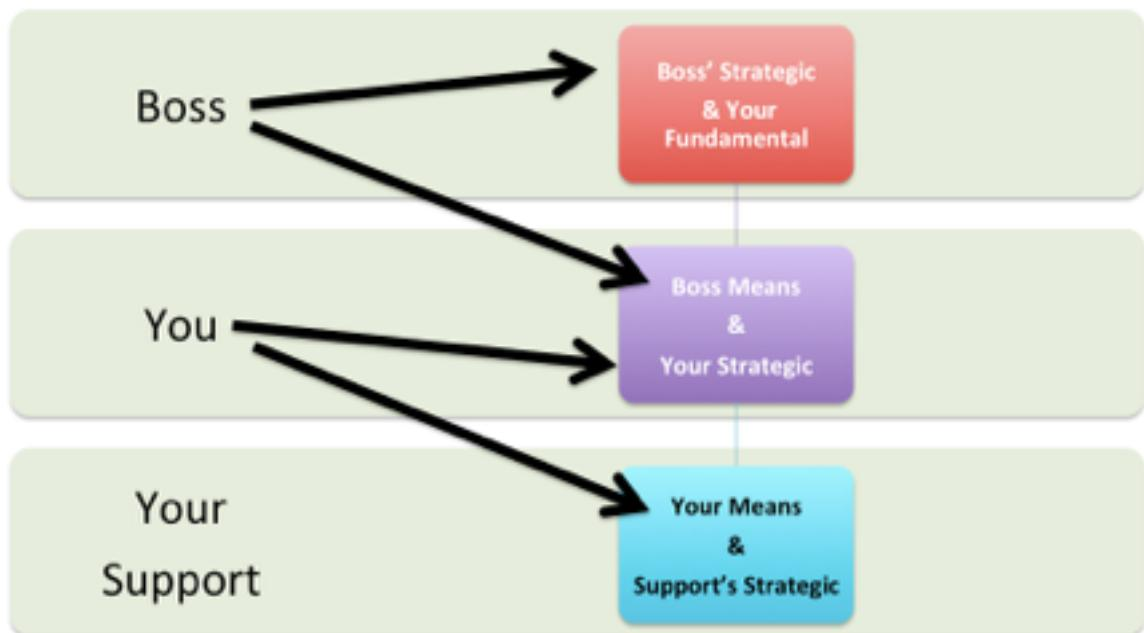

Figure 3 D. The perception of what is' ends' and what are the 'means' depends on your stakeholder level. 'One mans meat is another mans poison'.
Figure 3 A. A 'strategy' is something we plan to do, with a hope that it will have a positive effect on at least one objective's Goal. A numeric estimate, of the future strategy impact, is called an 'Impact Estimation'. In this example the estimate is 20 seconds progress towards the Goal.
Figure 3 B. A simplified and symbolic hierarchy of objectives and supporting strategies. In our world, these relationships, the thin vertical lines, can be quantified, estimated and measured.
Figure 3 C Your primary responsibility is to meet your Strategic Objectives. But you need to make sure they actually satisfy your next level up 'Fundamental Objectives'. And, you need to worry that the Means Objectives, which are intended to satisfy your Strategic objectives, really do the job, on time, on budget.
*Figure 3 E. An 'abstract strategy' is expressed as a scalar objective, and it is designed to support a specific higher-level objective, with some required level of performance. It does not itself contain a particular specific 'concrete strategy', that might really deliver that level of performance. So, at some point we have to find real concrete strategies, to make it work, at intended levels of performance.*
Figure 3 F. The difference between concrete strategies (just do it), and abstract strategies (be 'this good', (somehow)). That abstract strategy level will support the next level of objectives up. **If** we can find suitable concrete strategies for reaching the Goal level.
Figure 3 G. Strategies can be concrete (just do it) or abstract (let us achieve it), but the abstract ones, need, at some point, to have concrete ideas behind them.
Figure 3 H. Keeney's Levels of Responsibility and perception. All of these will have to operate by respecting a number of constraints. Constraints include budgets, deadline, and conformance to law, culture, policy and other agreements that apply.
Figure 3 I: A model of an Abstract Strategy, with defined function, and **multiple** performance and cost attributes. The arrowhead on the scale (--->---) arrow, represents a goal or a budget level.